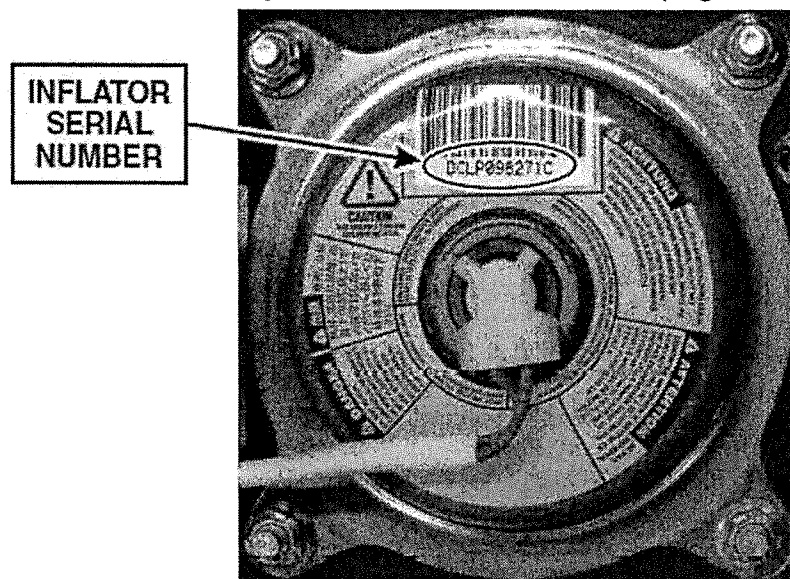
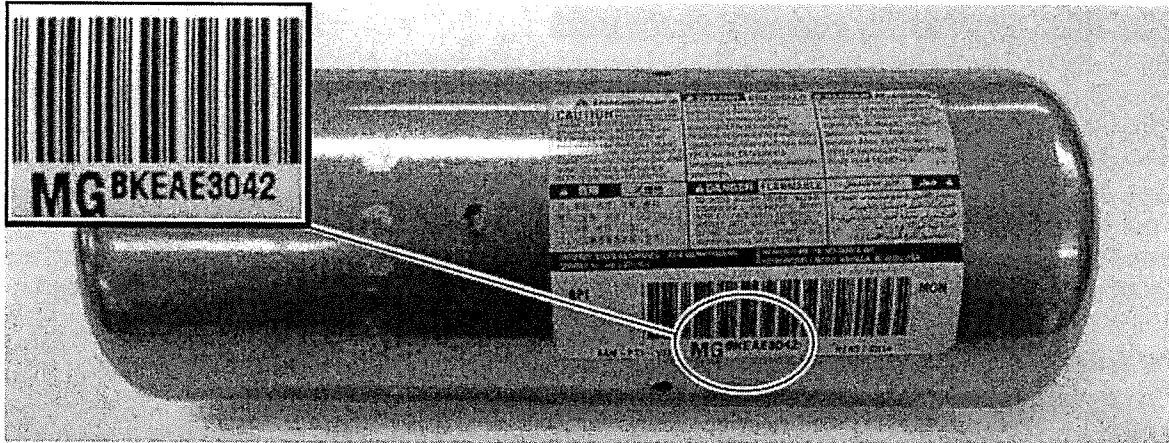

FIGURE 1
FIGURE 2
2. Document the deployed airbag inflator serial number(s) on the RO (Reference Figure 1 for the driver side and Figure 2 for the passenger side).
1. Take pictures of the undeployed airbags, the serial numbers of the undeployed airbag inflators (refer to Figures 1 and 2), and the vehicle’s VIN plate.
2. Document the airbag inflator serial number on the RO (Reference Figures 1 and 2).